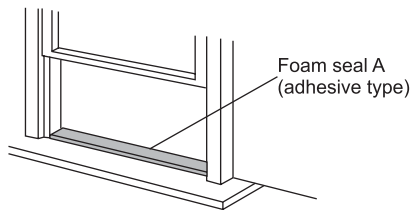

Fig.10
1. Cut the foam seal (adhesive type) to the proper length and attach it to the window stool. Fig.10